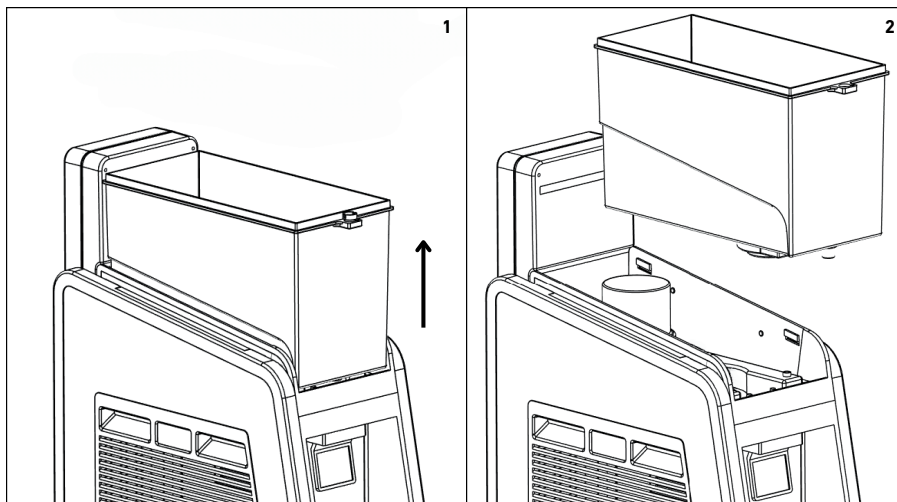

Figure 24
21.5.1. As shown in Figure 24, carefully remove the tank. The tank's sealing is ensured by the gasket. There is no locking system on this part.